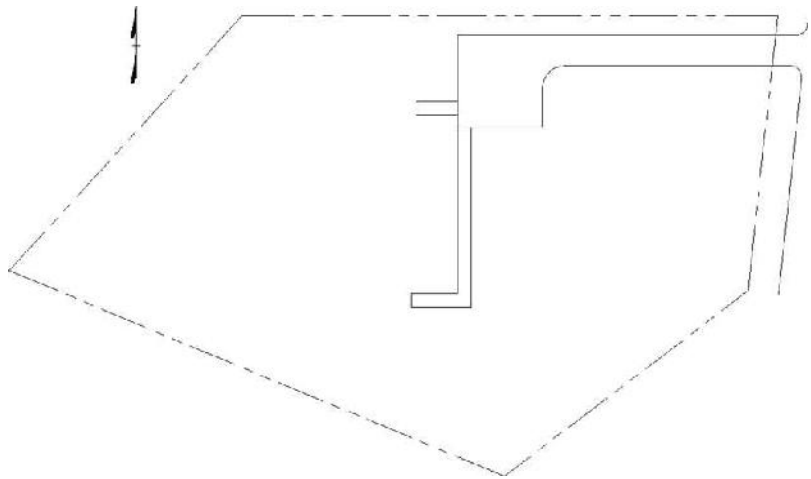

FIGURE 13.11: The completed site plan
4. Place the block in the upper-left quadrant of the plan, just outside the property line, as shown in Figure 13.11.
Your drawing should look like Figure 13.11.